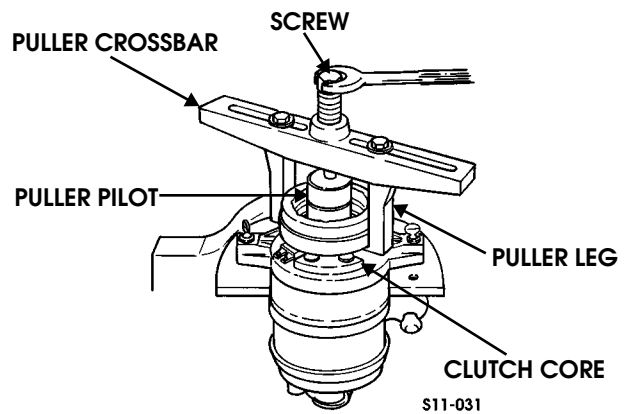

Figure 11-61: Clutch Core
2. Install puller pilot and puller crossbar with puller legs on compressor (Figure 11-61).
1. Place the clutch core on compressor with the terminal positioned at the marked location (Figure 11-61).